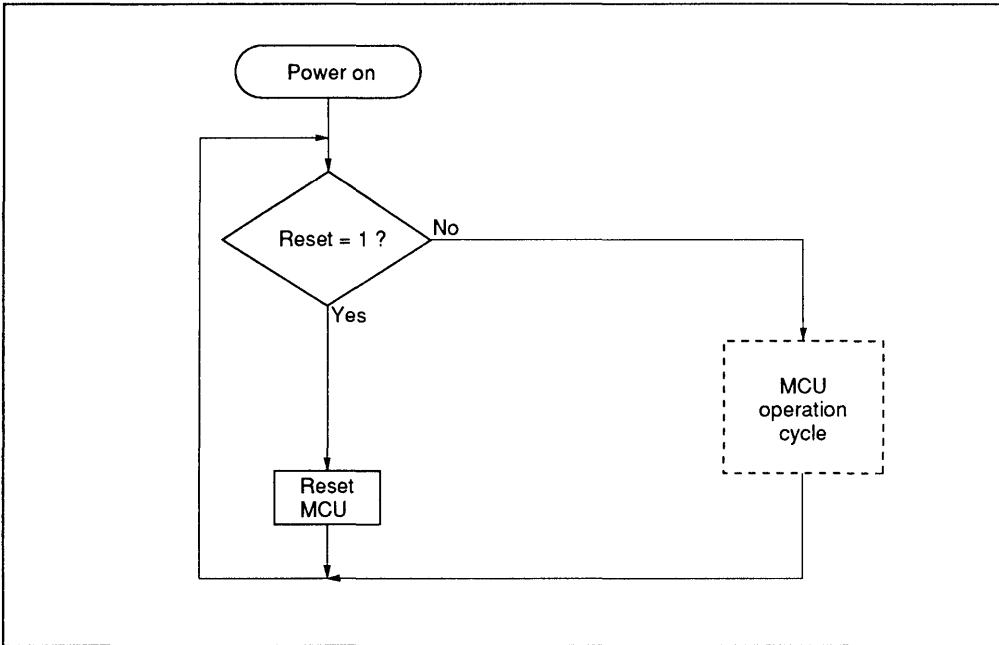

Figure 36 MCU Operating Sequence (power on)
**MCU Operating Sequence:** The MCU operates in the sequence shown in figures 36 to 38. It is reset by an asynchronous RESET input, regardless of its state.